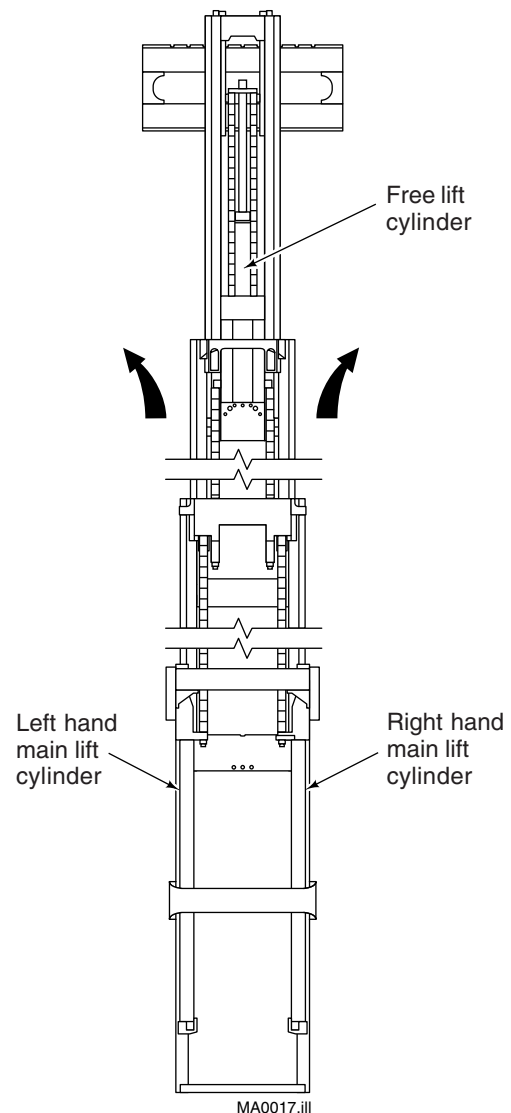

Figure 7. Extending upright viewed from driver seat.
- 1 Extend the mast to full lift height. See Figure 7.